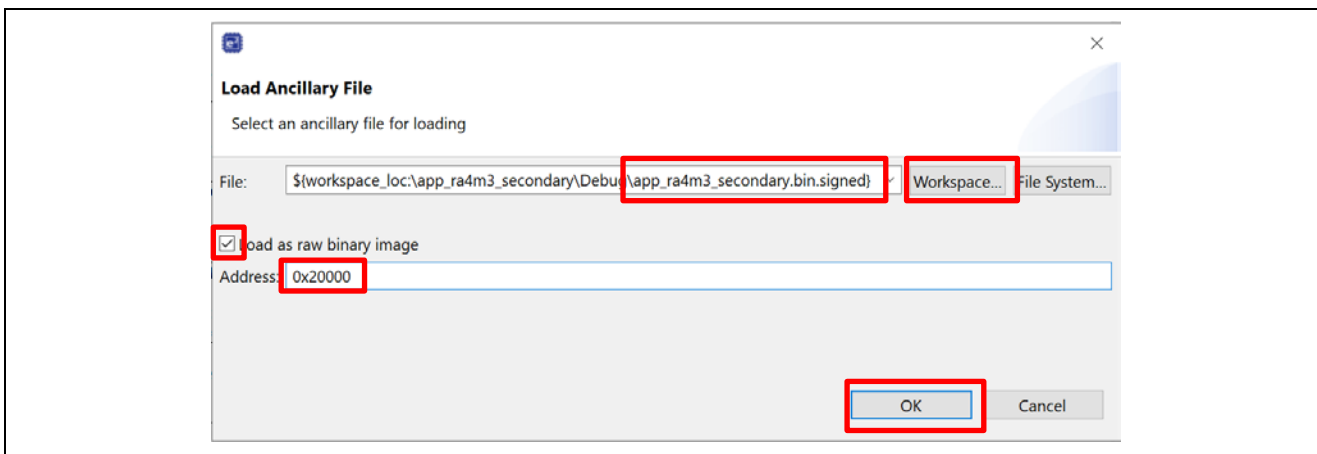

Figure 37. Load the Secondary Application Image for Overwrite Mode
2. Load the new application image to the Secondary slot region using the Ancillary loading capability  from the top of the e² studio toolbar in a similar way as Figure 37. Select **Load as raw binary image** and configure the **Address** to 0x28000.